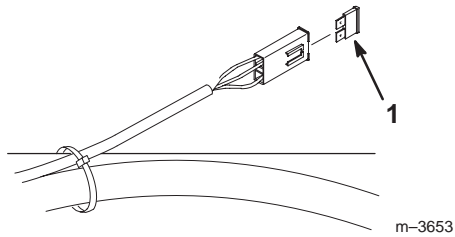

Figure 45
Fuse: Main F1—20 amp, blade-type (Fig. 45)
1. Raise the seat to gain access to fuse holder (Fig. 45).
2. To replace fuses pull out on the fuse to remove it (Fig. 45).